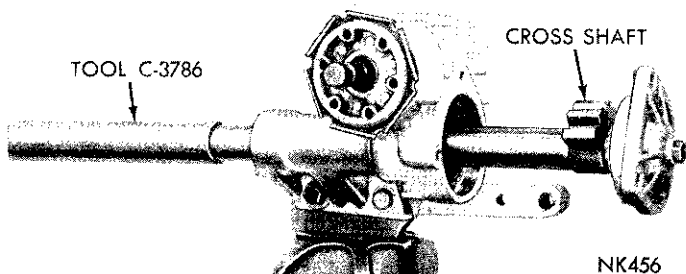
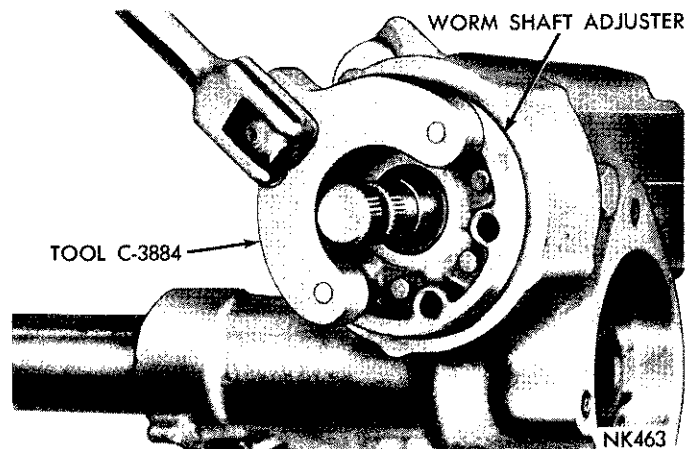

Fig. 4—Removing Cross Shaft
Fig. 5—Removing Worm Shaft Adjuster
- (2) Loosen cross shaft adjusting screw lock nut, and back out screw about two turns to relieve load caused by close mesh between ball nut rack and sector gear teeth. **Remove cross shaft seal as outlined in "Cross Shaft Oil Seal Replacement."**
(3) Position steering wormshaft in straightahead position.
(4) Remove bolts from cross shaft cover and slowly remove cross shaft while sliding arbor Tool C-3786 into housing (Fig. 4).
(5) Remove lock nut from cross shaft adjusting screw and remove screw from cover by turning screw clockwise.
(6) Slide adjustment screw and shim out of slot in end of cross shaft.
(7) Loosen wormshaft bearing adjuster lock nut with a soft drift and remove the lock nut. Hold wormshaft from turning while unscrewing adjuster, using wrench from Tool Set C-3884 (Fig. 5).
(8) Slide worm shaft adjuster off shaft.
(36) Install adjusting screw lock nut, but do not tighten at this time.
(37) Rotate wormshaft to centralize ball nut.
(38) Place new cover gasket on housing cover.
(39) Carefully install cross shaft and cover assembly into steering gear housing (Fig. 4).